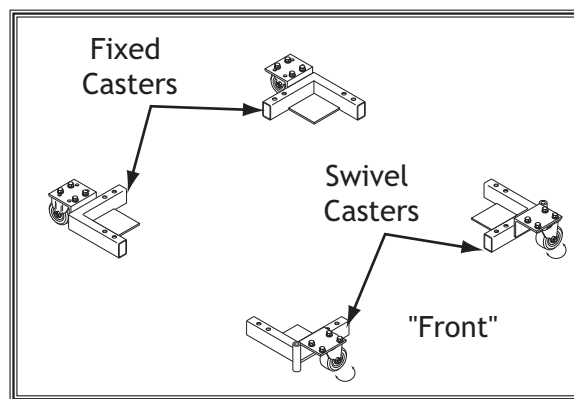

Figure 12. Corner brackets with casters laid out on floor.
4. Position the swivel casters on the "front" or side from which the machine will typically be pushed (see Figure 12).